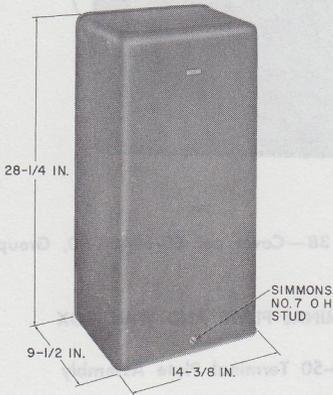

Fig. 36—Cover per ED-69462-50, Group 2
8.04 The cover per ED-69462-50, Group 2 (Fig. 36) is a fiber glass cover designed for use with ED-69462-01, Group 1 floor stand.